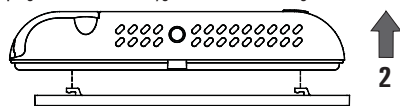

Fig. 2
- 1 Release the wall mount plate fitted under the base of the programmable thermo-hygrostat as shown in Fig. 2.